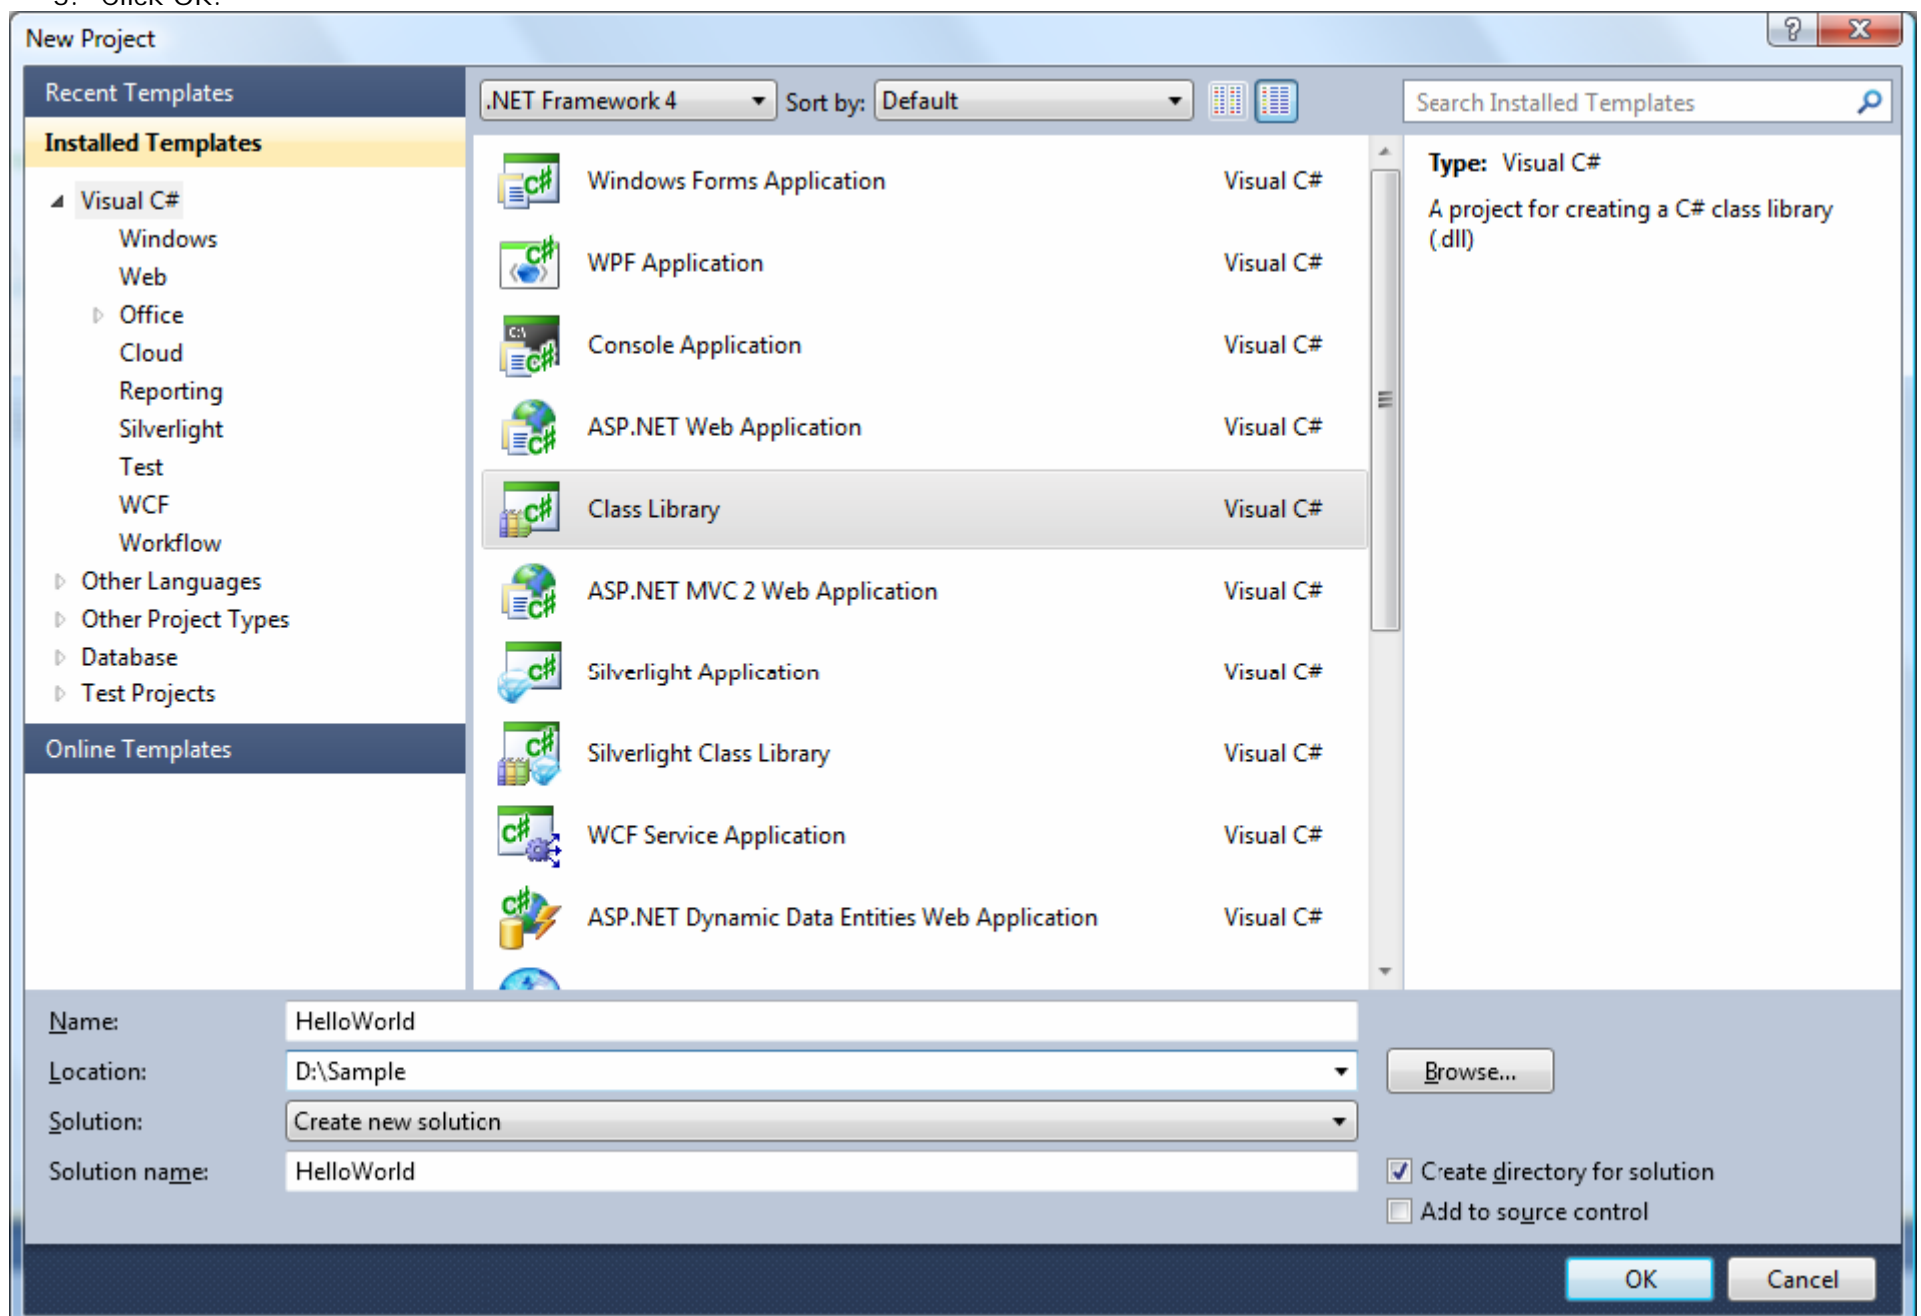

Figure 1: Add New Project
3. In the right-hand frame, click Class Library (see Figure 1: Add New Project below). This walkthrough assumes that the project location is: *D:\Sample*.